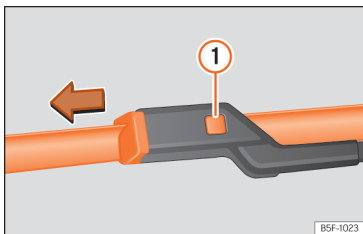

Fig. 209 Changing the windscreen wiper blades
- Press and hold release button »» Fig. 209 ① and pull gently on the wiper blade in the direction of the arrow.